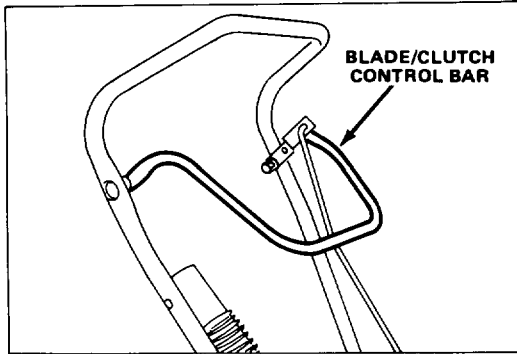
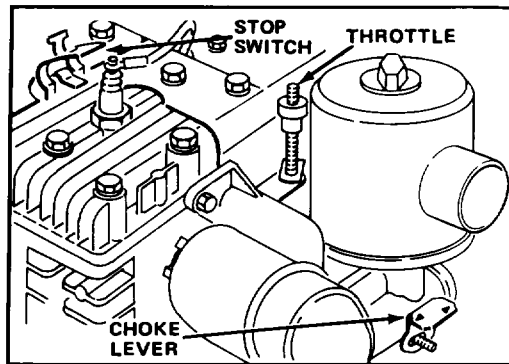
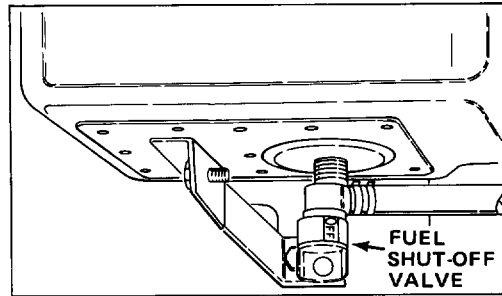
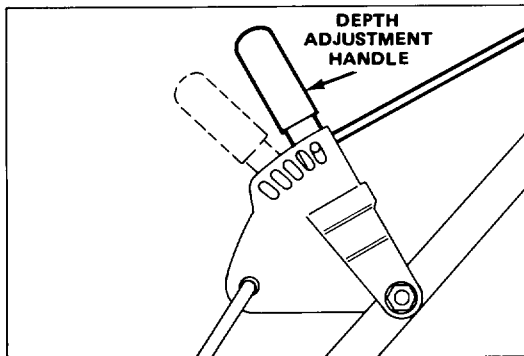

Figure 6
Figure 7
Figure 8
Figure 11
1. **CONTROLS** — Blade/clutch control bar is on upper handle (Fig. 6) and depth adjustment handle is on left side of upper handle (Fig. 11). Throttle, choke and stop switch are engine mounted (Fig. 7).
2. **STARTING** — Push wire onto spark plug and assure blade control is disengaged. Push engine stop switch away from spark plug and make sure throttle is pushed down. Move choke lever to **CHOKE** position. A warm engine will require little or no choking. Rotate fuel shut-off valve to "ON" position (Fig. 8). Place foot on rear wheel and pull recoil starter out slowly until positive engagement results; then pull vigorously until engine starts. When engine starts, gradually move choke lever to "RUN" position.
3. **EDGING** — Squeeze blade/clutch control bar (Fig. 6) against handle to engage blade and move cutter to preset depth. Release blade/clutch control bar to disengage blade and raise cutter head.
4. **STOPPING** — Release blade/clutch control bar (Fig. 6) and push engine stop switch against spark plug. Close fuel shut-off valve (Fig. 8) before storing or transporting machine.
3. ADJUSTING DEPTH (Fig. 11) — Release blade/clutch control rod. Move depth adjustment handle forward to increase blade depth and rearward to decrease blade depth.